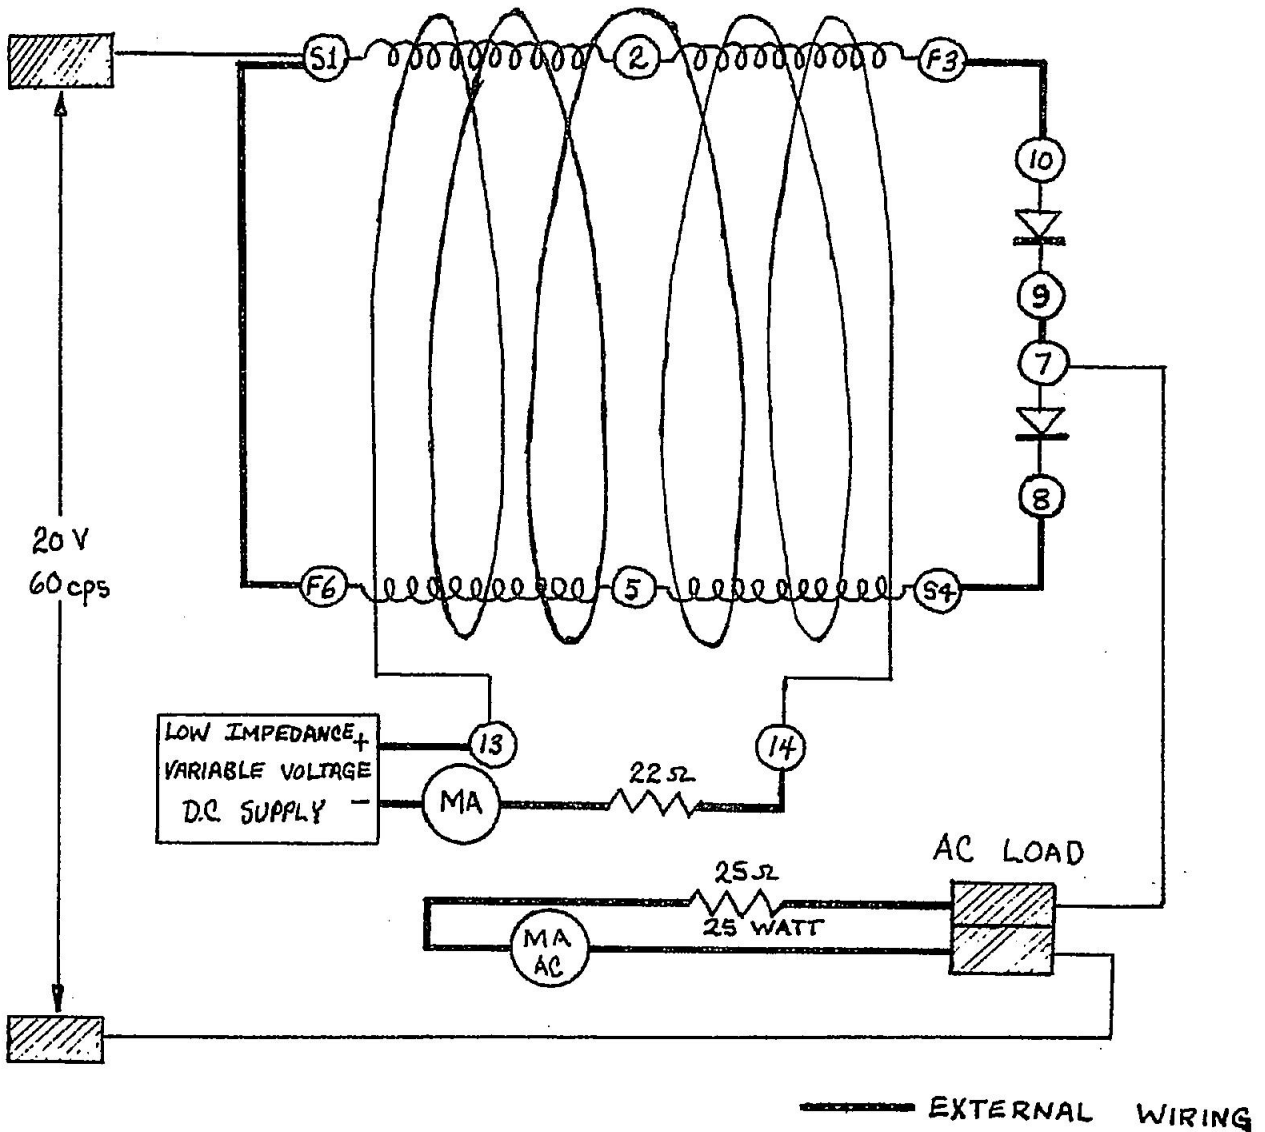

Figure 7
Figure 7 shows a self-excited magnetic amplifier. The reactor cores are saturated with zero control current due to the self-exciting effect of the rectified load current. Again, in order to minimize load current when the control current is zero, it is necessary to introduce bias current.
1. Connect the unit as shown in Figure 7 and supply with 20 V AC.